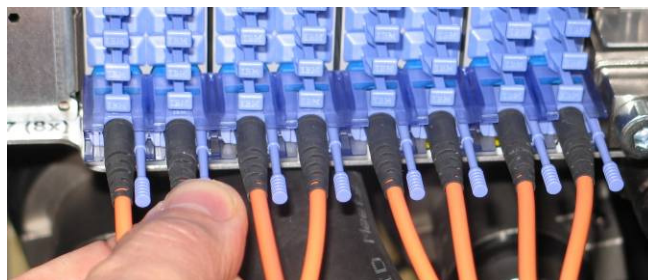

Figure 11 Unlatching next connector in grouper
- STEP 19 Plug the grouper in by positioning the grouper for the D-Link optical connectors at the proper row, inserting all connectors in the grouper into their respective D-Port adapter receptacles (see Figure 11), and clicking them all into place. Do this at both ends of the suspect D-Link cable.